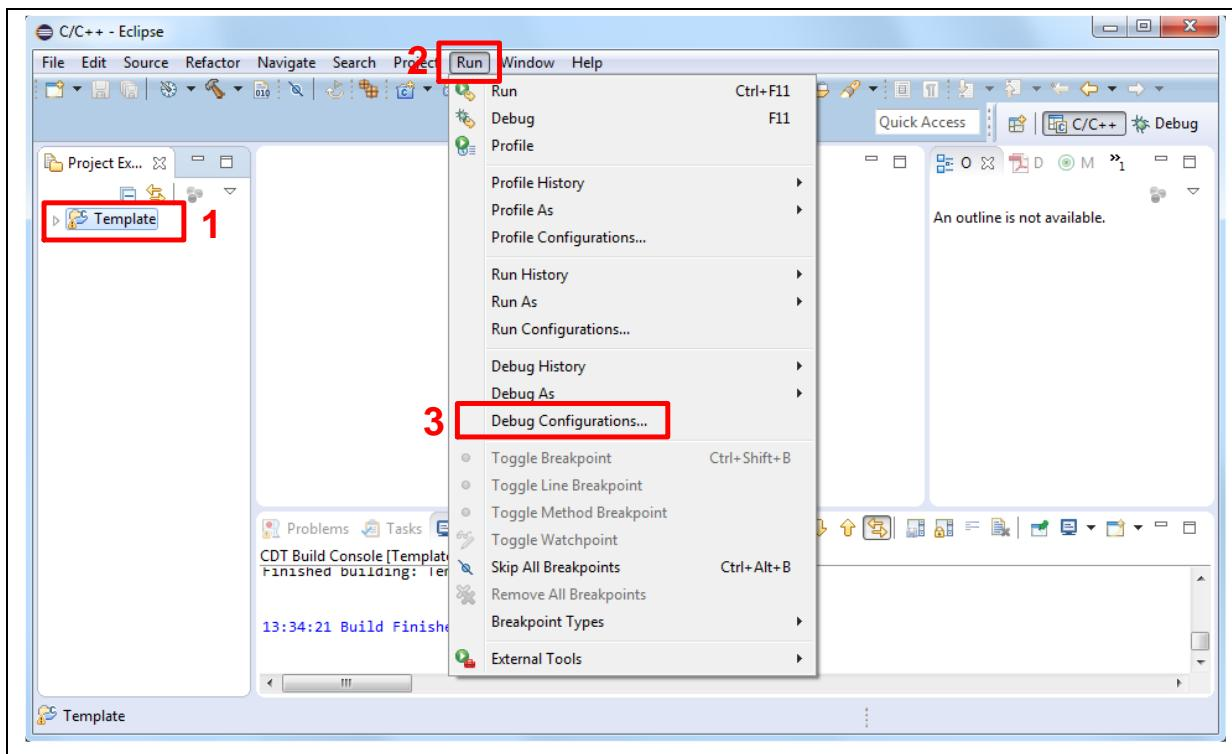
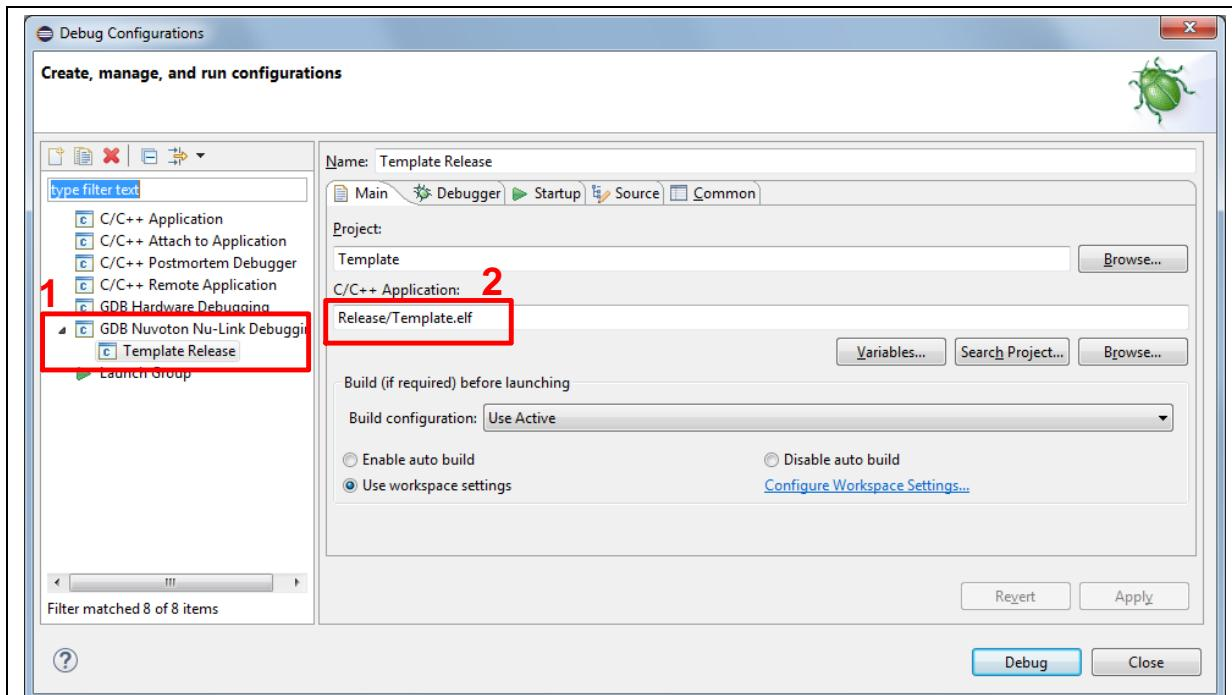
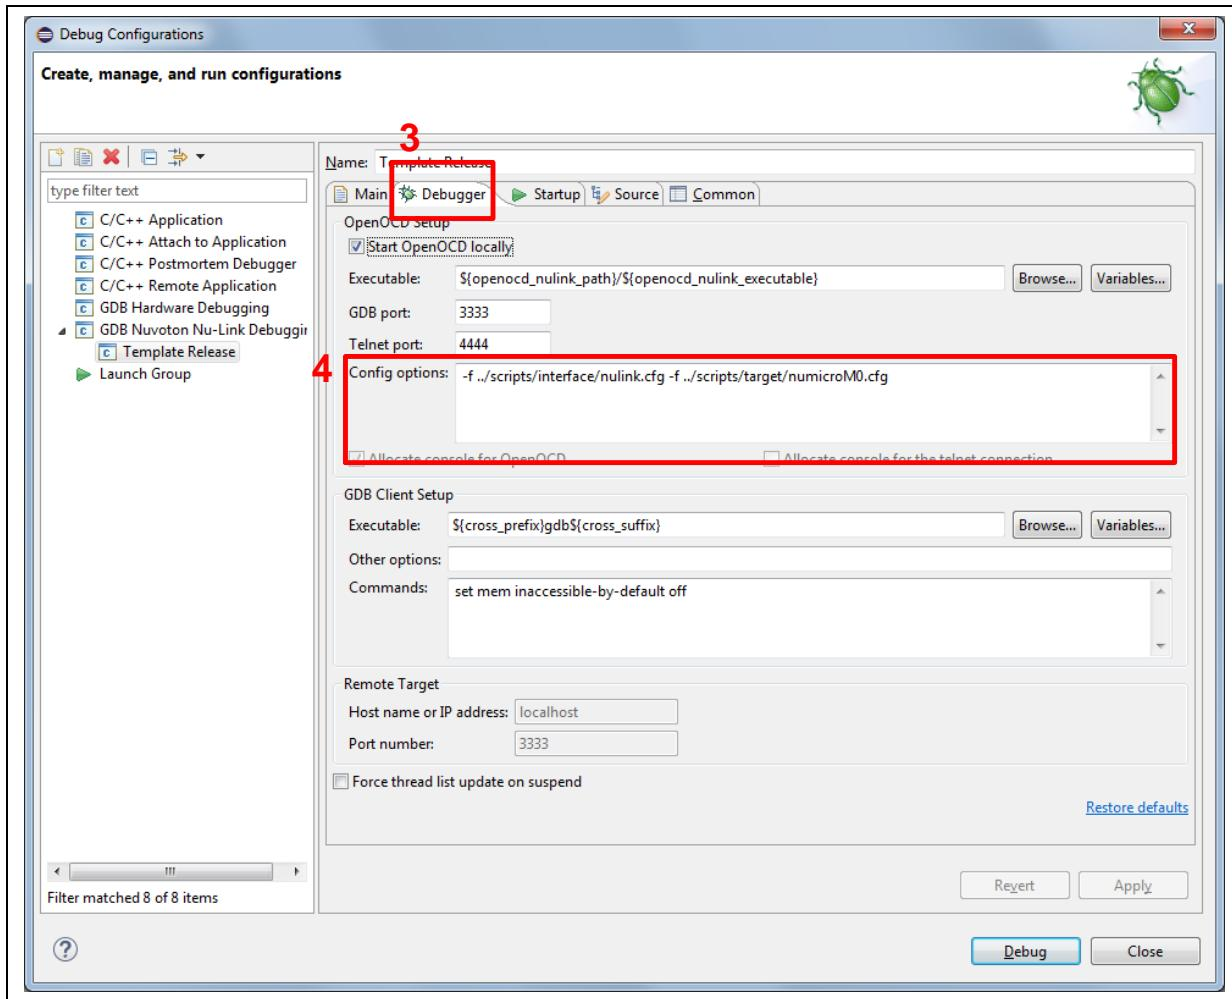
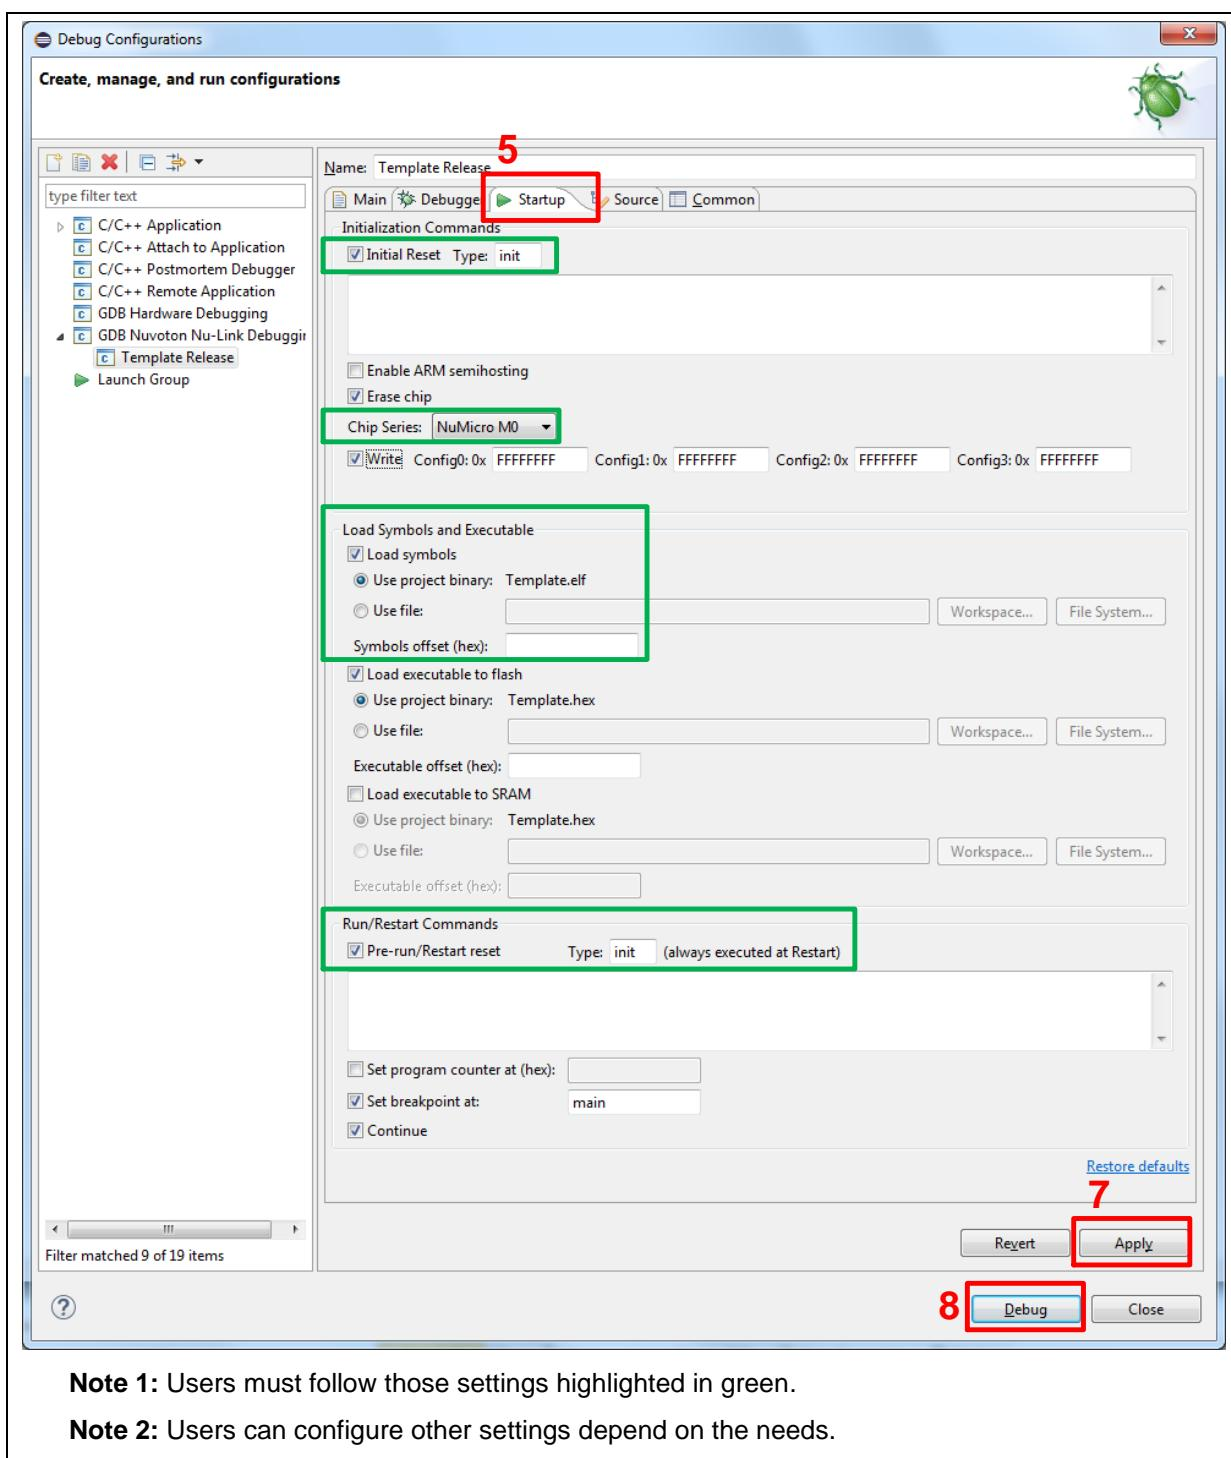

Figure 3-24 Open Debug Configuration
Figure 3-25 Main Tab Configuration
Figure 3-26 Debugger Tab Configuration
Figure 3-27 Startup Tab Configuration
5. After the project is built, click the “Template” project and set the “Debug Configuration” as shown in Figure 3-24. Follow the settings presented in Figure 3-25, Figure 3-26 and Figure 3-27 to enter debug mode.